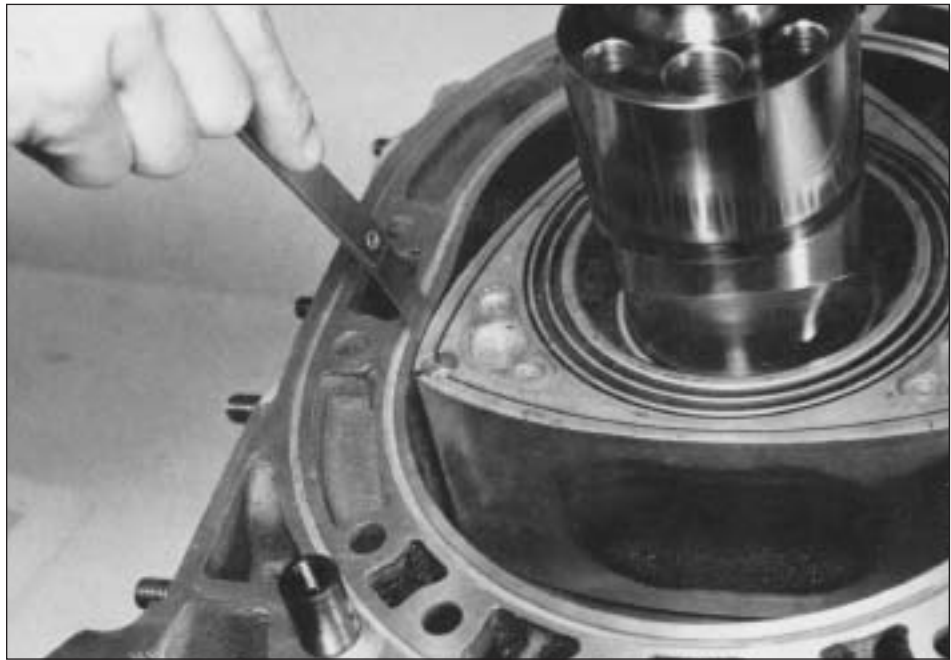

Figure 2
3. Using a feeler gauge, as shown in Figure 2, measure the clearance between the rotor and the rotor housing. There are four (4) measuring points, two on each side of the rotor housing, at approximately 1" below and above the horizontal centerline.